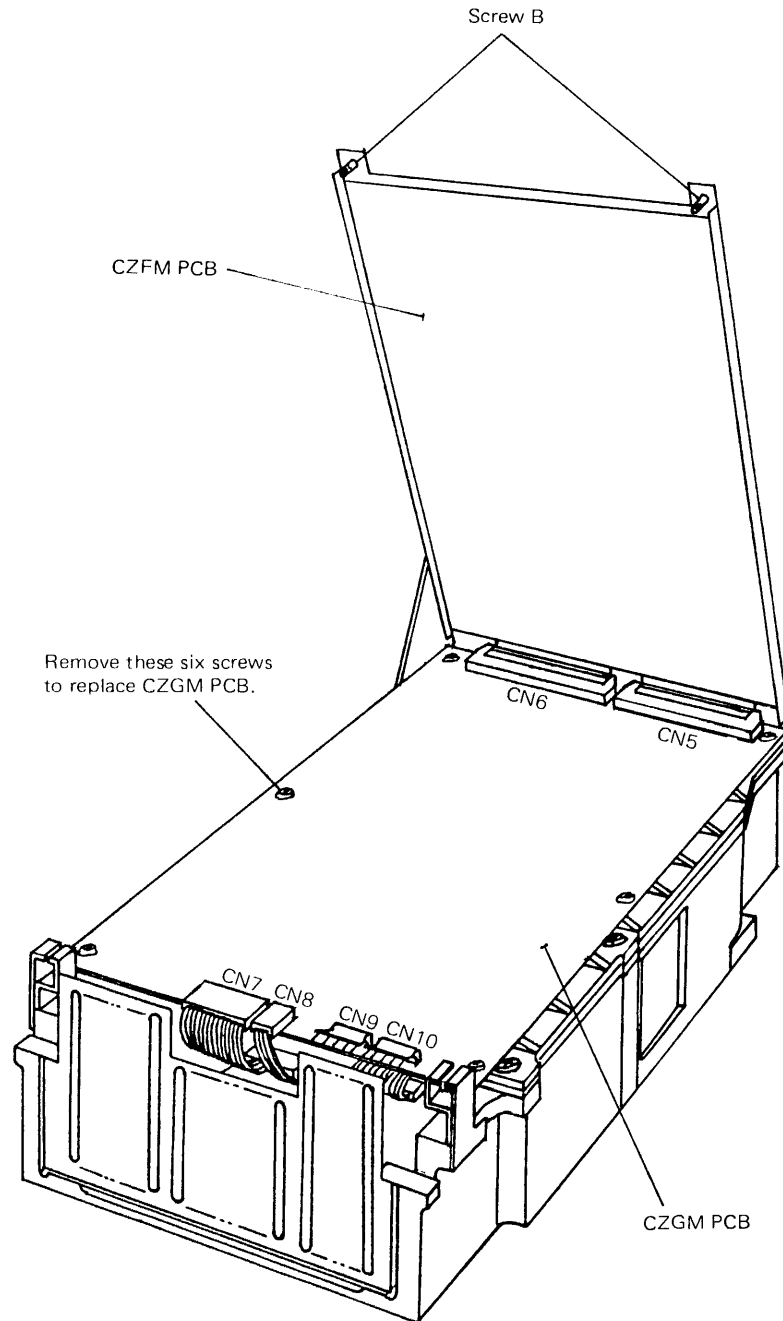

Figure 6-5-3 CZGM PCB Replacement
- (1) Use test equipment that has been correctly calibrated.
- (2) Always record failure symptoms and remedies employed for later reference.
- (3) To ease the installation of the D.C. power cable at CN9 and CN10; loosen the two CZFM screws (screws 'B' in figure 6-5-3).
Refer to Figure 6-5-3.